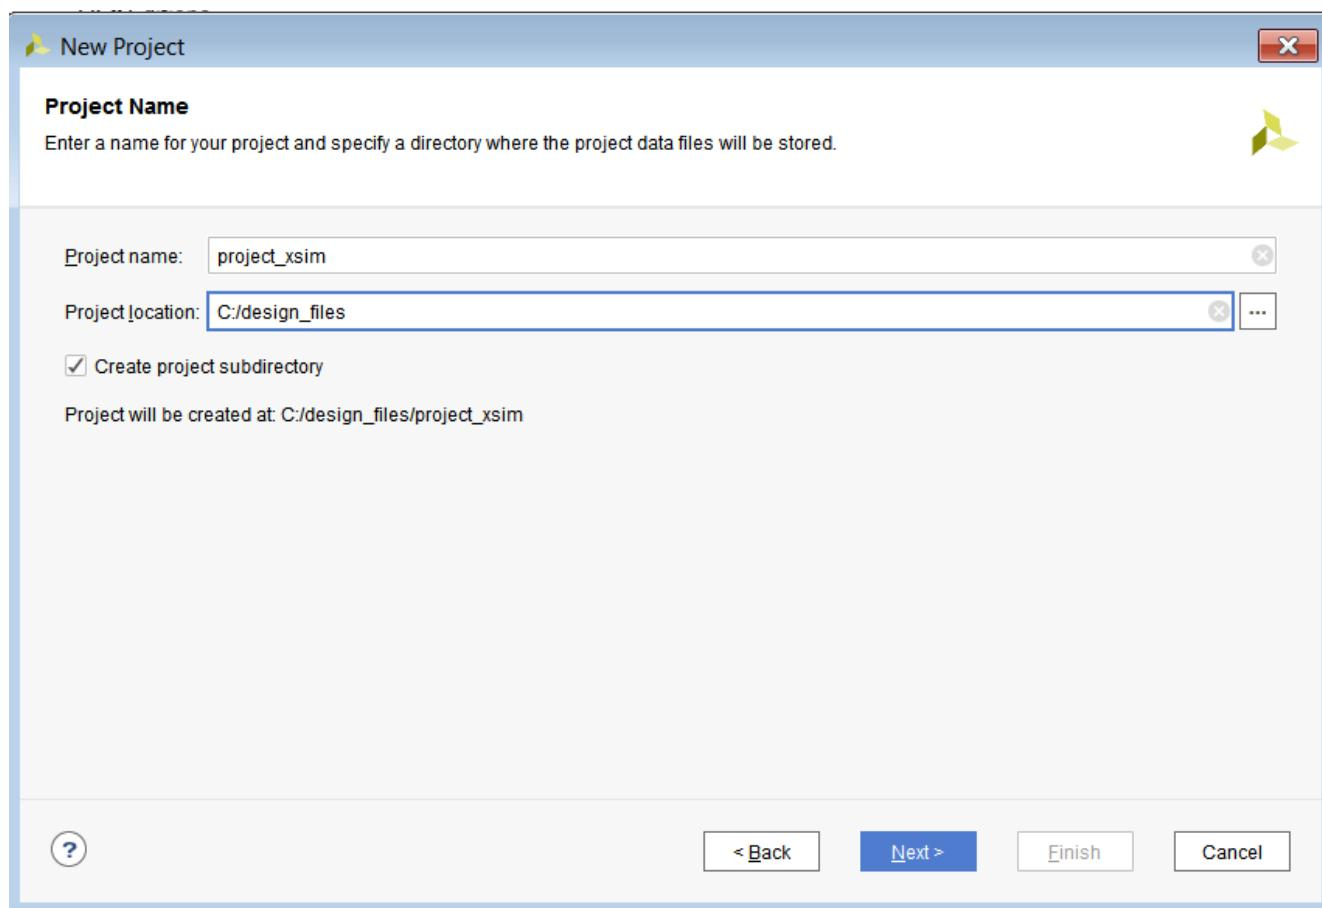

Figure 3: Create Project
4. For the **Project Location**, browse to the folder containing the extracted tutorial data, <Extract_Dir>. Make sure to check the **Create project subdirectory** option and click **Next**. (Figure 3).